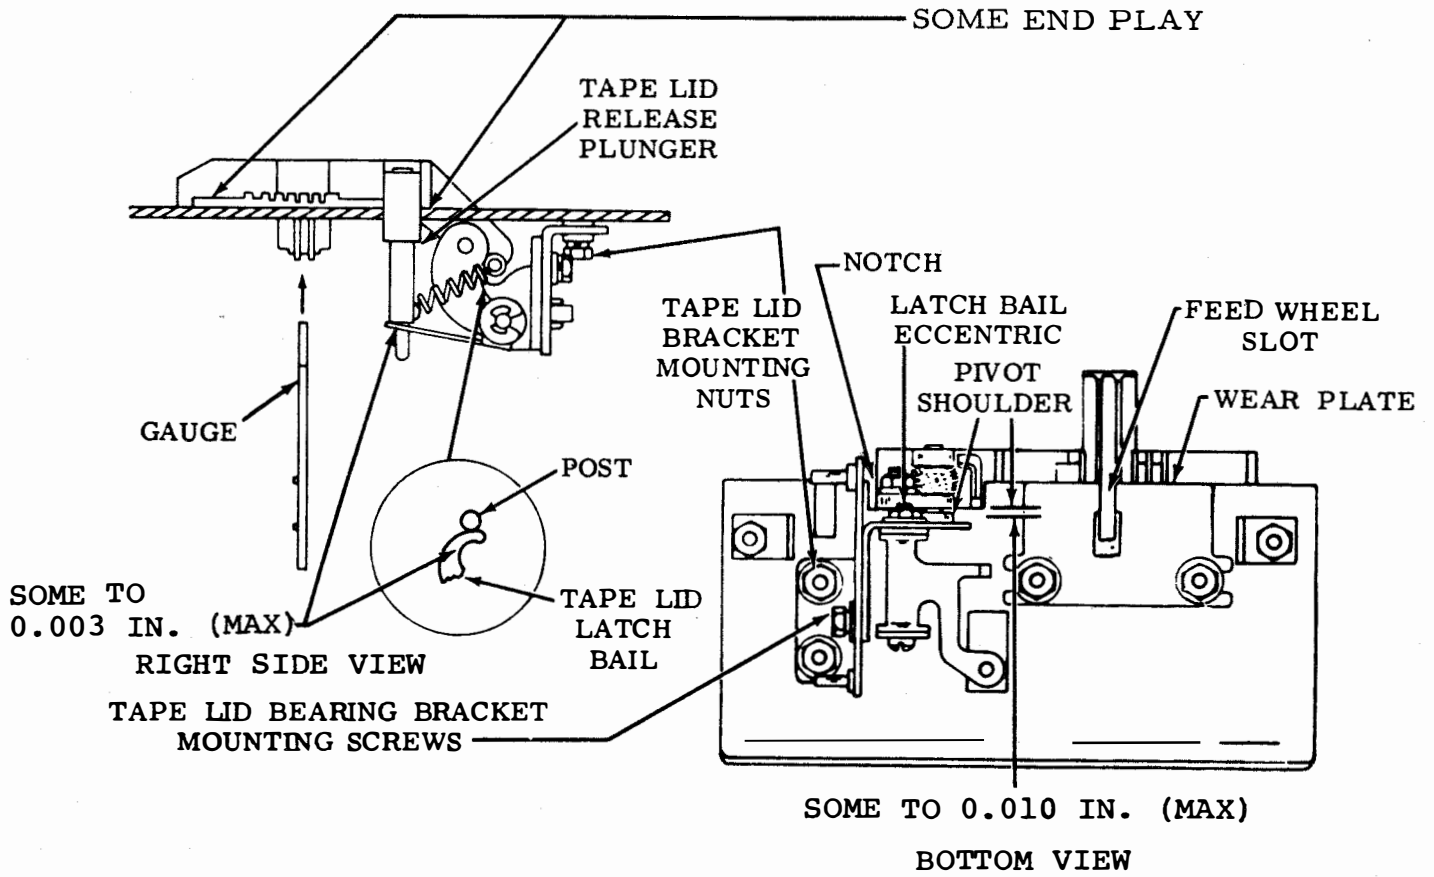

Figure 6-565. Tape Lid
(1) Refer to Figure 6-565.
(2) Hold tape against notch in tape guideplate.
(3) Align feed wheel groove in tape lid with slot in plate.